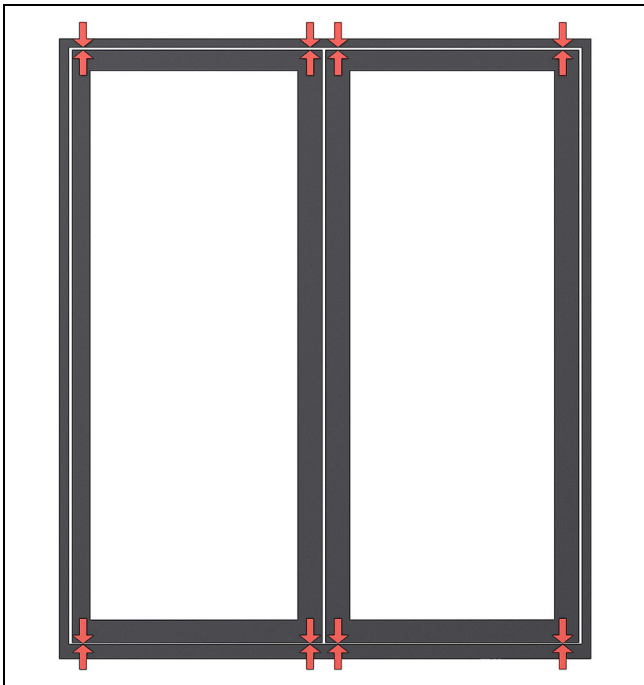

Figure 75
1. Adjust your hinges vertically until you have consistent reveals along the top and bottom of the panels. See Figure 75.